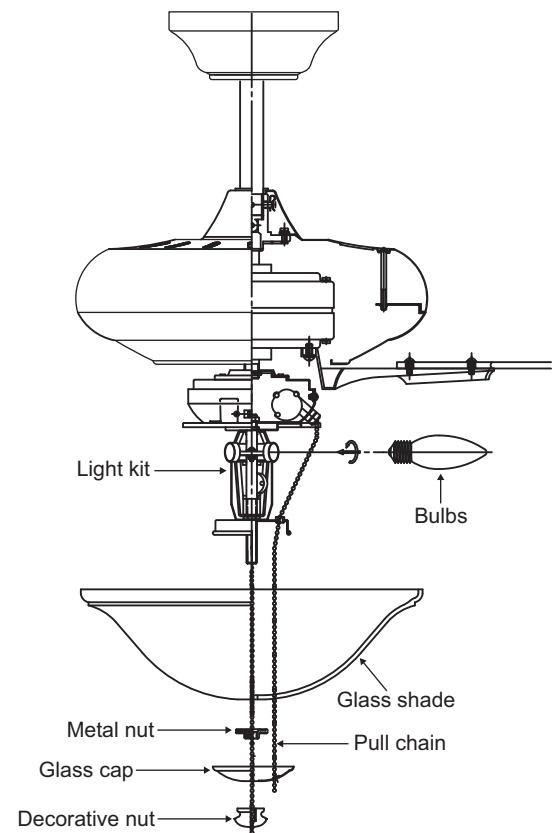

Figure 20
1. Install 3 x 60W candelabra bulbs (provided). (Fig. 20)
2. Remove the decorative nut, glass cap and metal nut from the light kit. Place glass shade over the light kit stem, secure with the metal nut (rubber side on the top) glass cap and decorative nut. Do not overtighten. Secure tightly the glass frame and decorative nut. (Fig. 20)
3. Insert the 2 pull chain through the eyelet in the shade and cap. (Fig. 20)